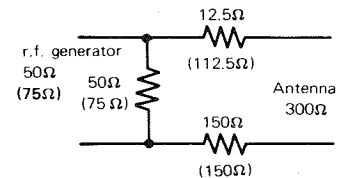

Fig. 2 Dummy Antenna
- When connecting the r.f. generator to the antenna terminal use the dummy antenna . . . refer to Fig. 2.